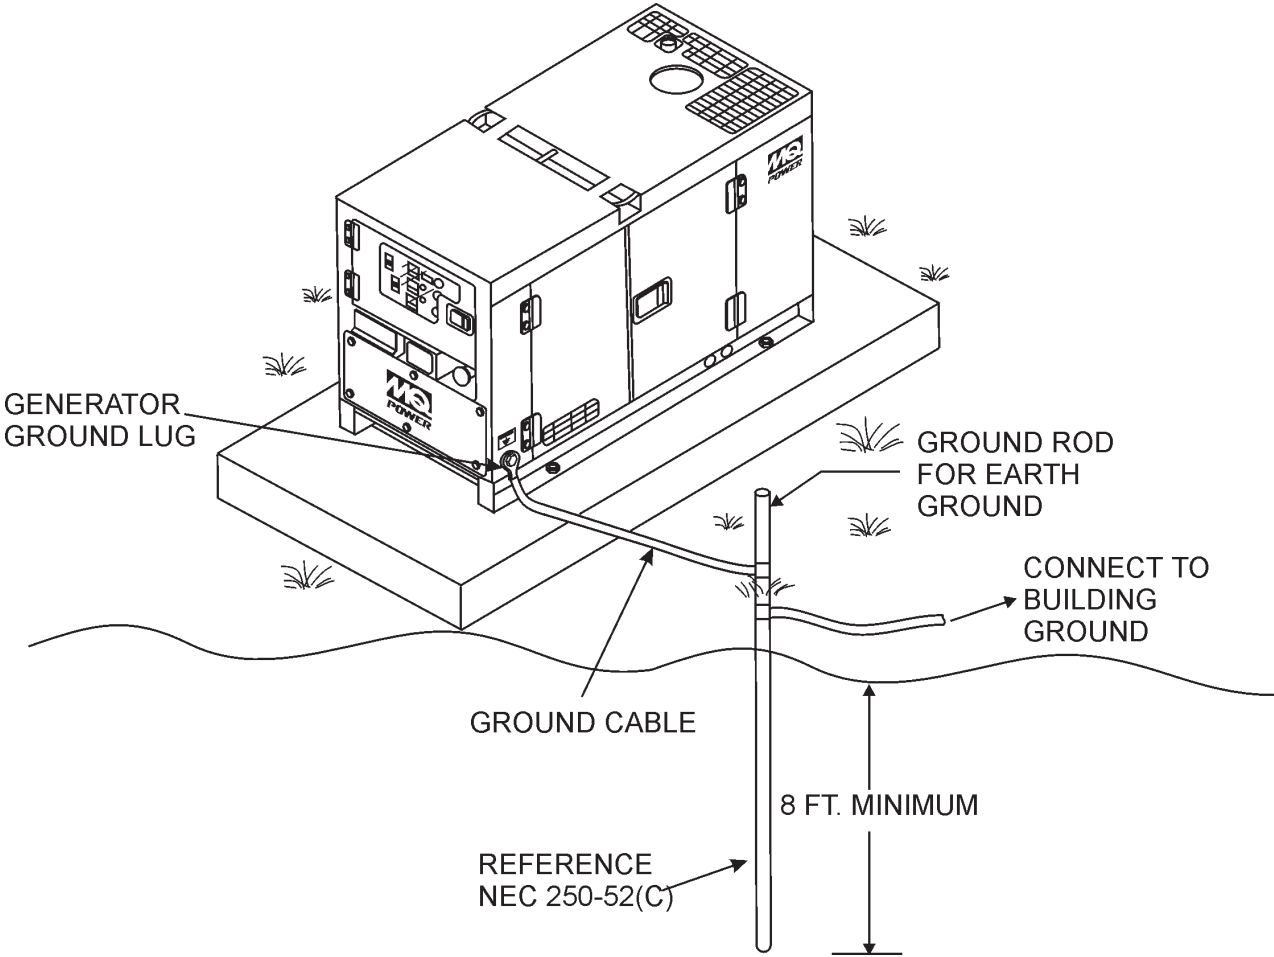

Figure 3. Typical Generator Grounding Application
2. When grounding the generator (Figure 3) connect the ground cable between the lock washer and the nut on the generator and tighten the nut fully. Connect the other end of the ground cable to earth ground.